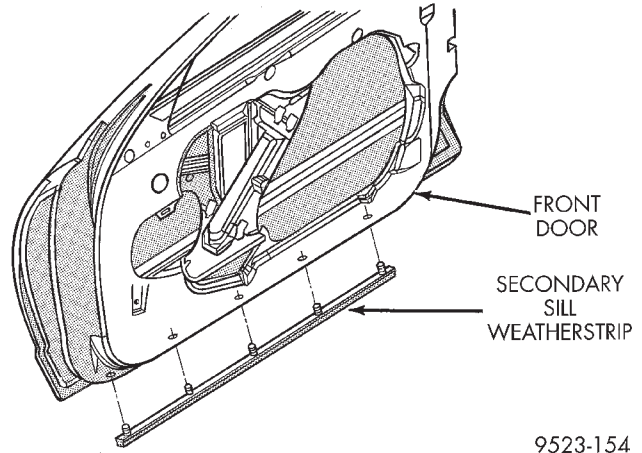

Fig. 13 Secondary Sill Weatherstrip
- (1) Open front door.
(2) Using fork tool C-4828, disengage push-in fasteners holding secondary sill weatherstrip to bottom of door.
(3) Separate secondary sill weatherstrip from vehicle (Fig. 13).